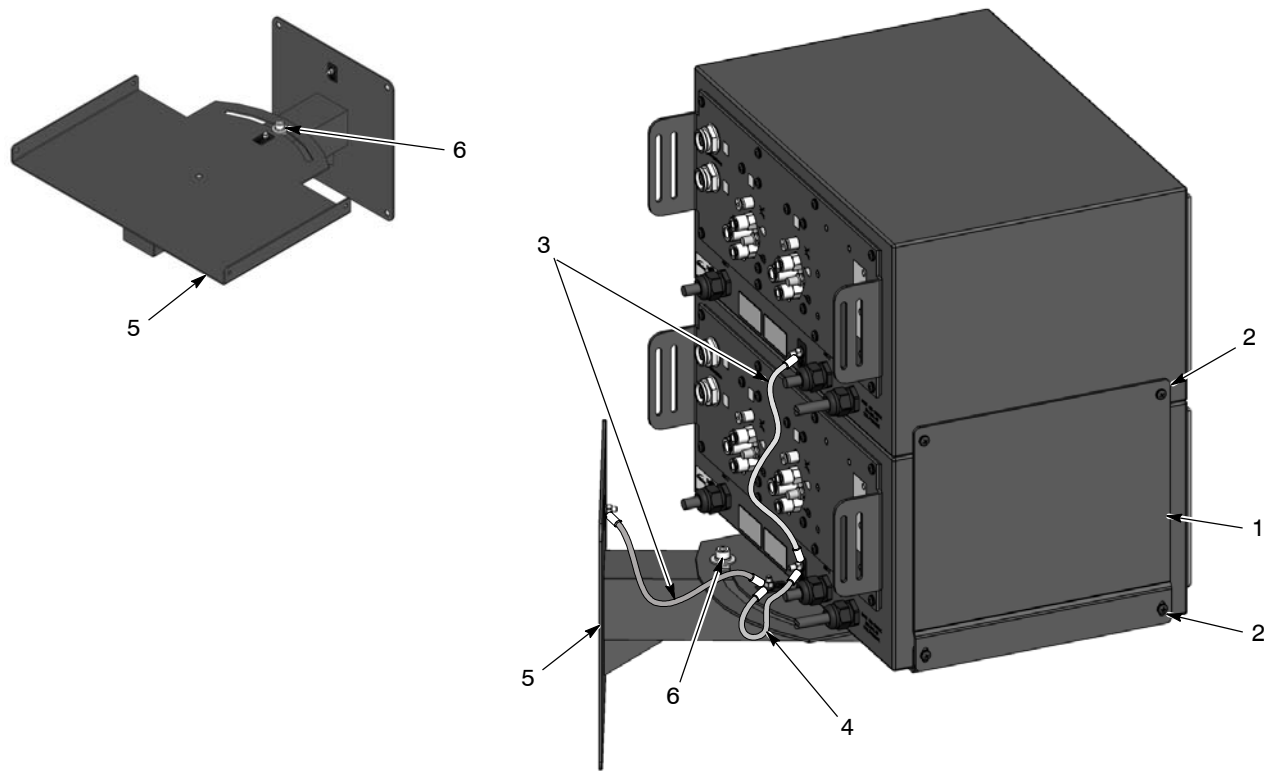

Figure 3-3 Dual Controller Mounting with Optional Wall-Mount Bracket
5. See Figure 3-3. Install the wall mounting bracket (5) on a vertical surface strong enough to bear the weight of the controller(s) and mounting bracket. Use appropriate fasteners.
7. If installing only one controller, secure it to the bracket flanges with four M5 x 12 pan head screws (2).
8. If installing two controllers, use four M5 x 12 pan head screws (2) to install the slotted ends of the stacking brackets (1) and controller to the tray. Do not tighten the screws.
10. Use one 12-in. ground wire (3) to ground the top controller to the bottom controller. Use the 4-in. ground wire (4) to ground the bottom controller to the wall mount tray. Use the other 12-in. ground wire to connect the tray to the mounting plate.
11. Loosen the tray swivel bolt (6) to rotate the tray to the desired position, then tighten the bolt.